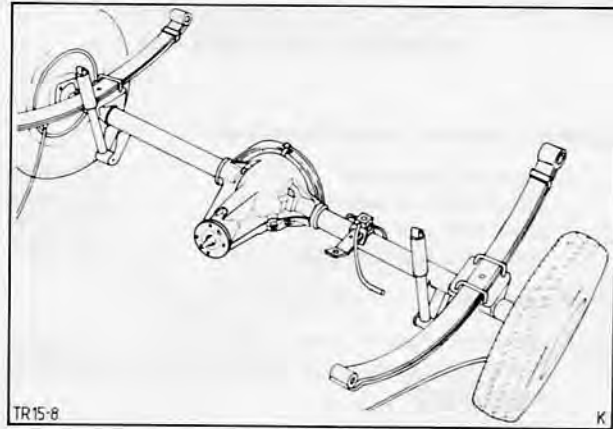

Fig. 13. Locate complete rear axle assembly
9. Locate complete rear axle assembly in position, Fig. 13.